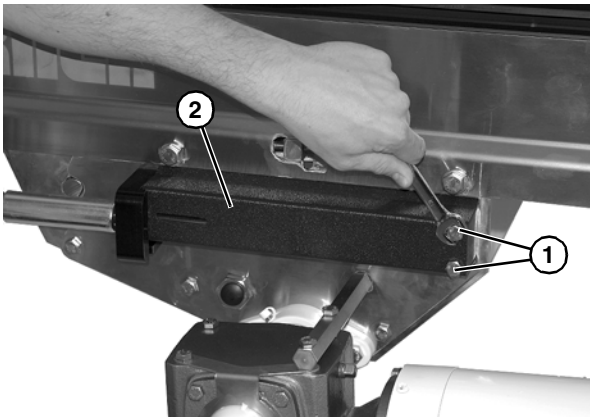

Figure 34
4. Remove two bolts (**Figure 34, item 1**) from cover (**Figure 34, item 2**).